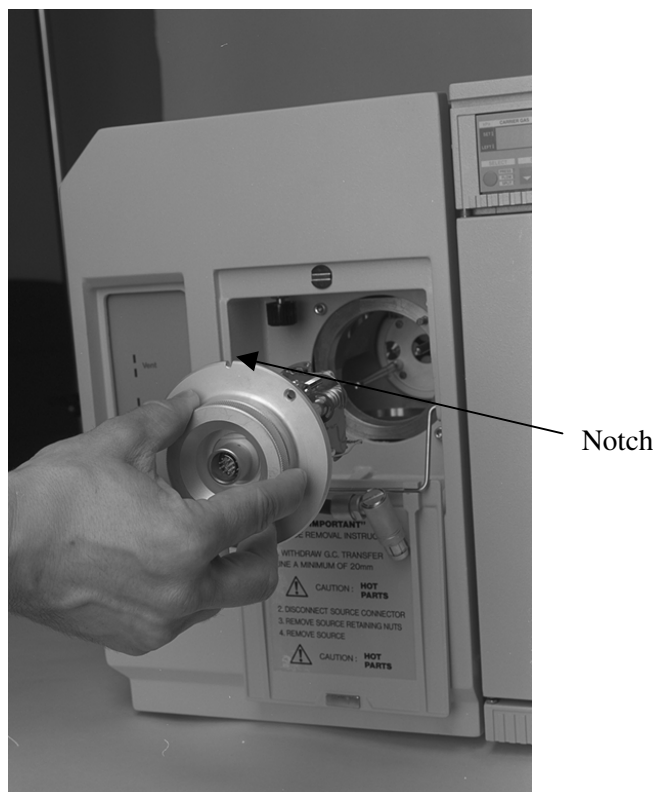

Figure 3-3. Correct alignment of source
2. Ensure that the source is aligned correctly – **with the notch in the baseplate at the top of the source** (see Figure 3-3).